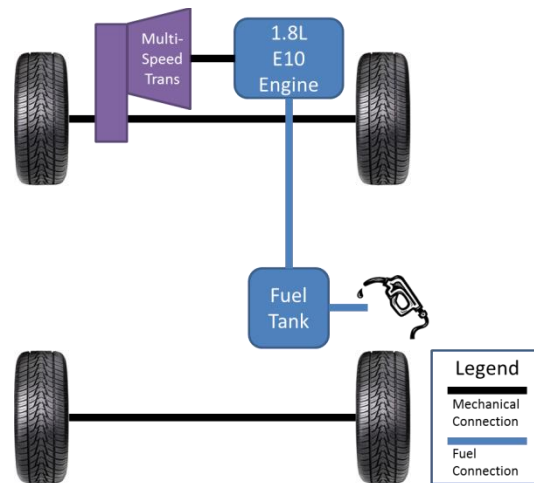
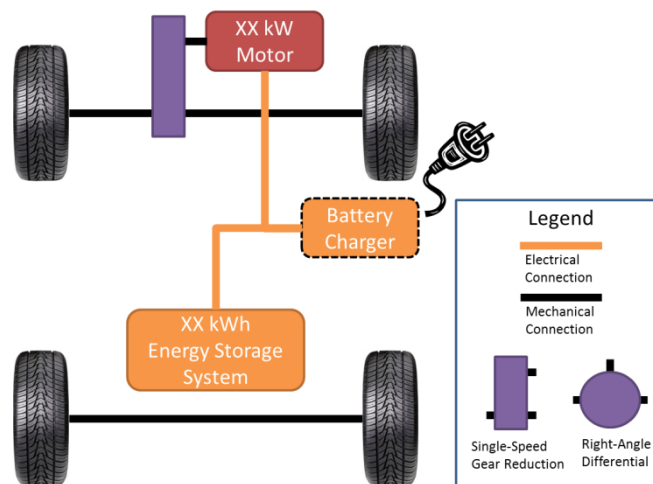

Figure 2: Template for Conventional Vehicle Powertrain Configuration and Power Flow
Figure 4: Template for Electric Vehicle Powertrain Configuration and Power Flow
Using this size and power gasoline engine, develop and document a model of a vehicle with a conventional powertrain using the vehicle glider characteristics just given. Also document the transmission model and gearing selected for the powertrain. Use Table 7: Template for Reporting Results and Powertrain Sizing to document critical powertrain and vehicle characteristics used in the model. Discuss the assumptions, limitations, and sensitivities of your model. Also include a diagram similar to Figure 2 that shows the powertrain configuration and power flow of your model.
Develop and document a model of a vehicle with an electric powertrain by using the glider vehicle characteristics from Table 1. Document the motor model and gearing selected for the powertrain. Develop and document a simple battery model that relates the battery size and mass to the power and energy available from the battery. Size the motor power (and thus the battery power) to meet or exceed the acceleration target, and size the battery energy capacity to meet the range requirement. Document how you estimate the mass of each component and total vehicle test mass. Use Table 12: Template for Reporting Results and Powertrain Sizing to document all critical powertrain and vehicle characteristics used in the model. Discuss the assumptions, limitations, and sensitivities of your model. Also include a diagram similar to Figure 4 that shows the powertrain configuration and power flow for your model.
Further develop the electric drive model to include an engine and generator to form a series HEV model. Document the engine-generator component model, and start with the 100-kW engine specified for the conventional vehicle in the previous section. Note that you will now need a hybrid vehicle supervisory control (HVSC) model to implement an energy management strategy and keep the battery state of charge (SOC) within reasonable bounds. Start with a relatively small battery with 3.0 kWh of total energy capacity and a maximum peak power of 50 kW. Document how you estimate the mass of each component as well as the total vehicle test mass. Use Table 14: Template for Reporting Results and Powertrain Sizing to document all critical powertrain and vehicle characteristics used in the model. Discuss the assumptions, limitations, and sensitivities of your model. Also include a diagram similar to Figure 2 and Figure 4 that shows the powertrain configuration and power flow for your model.
2. A diagram to illustrate the powertrain configuration and power flow, similar to Figure 2 and Figure 4.